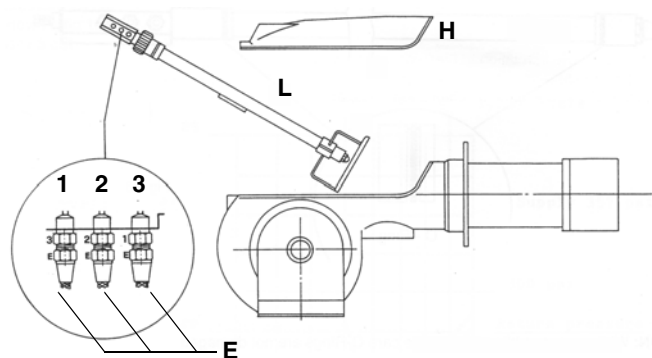
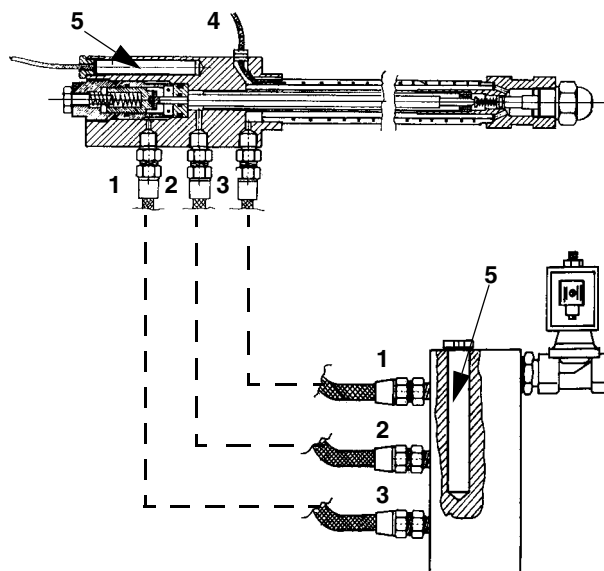
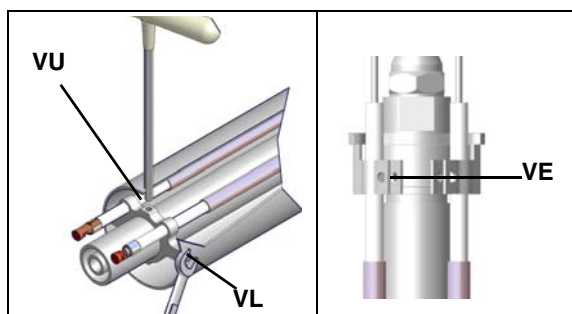

Fig. 27
Fig. 28
Fig. 29
- Unscrew the oil connections E (Fig. 27) connecting the flexible pipes to the lance L and remove the whole assembly as shown in Fig. 28-Fig. 29.